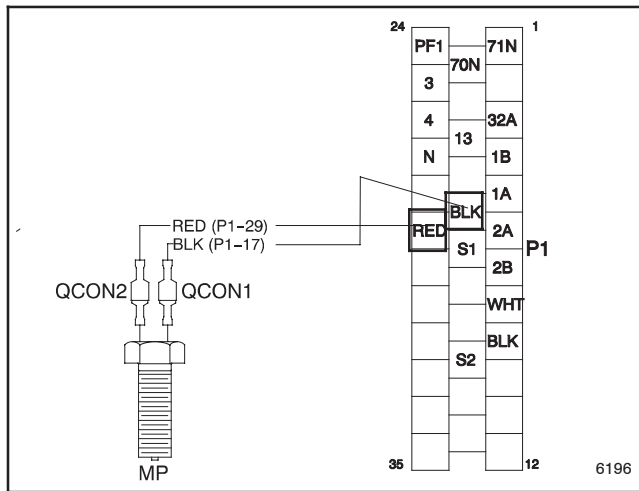

Figure 6-22 Magnetic Pickup Leads
4. Verify the operation of the magnetic pickup by connecting a voltmeter to the magnetic pickup leads. See Figure 6-22. If the air gap is correct, the voltage should be 1.75 volts AC minimum during engine cranking.